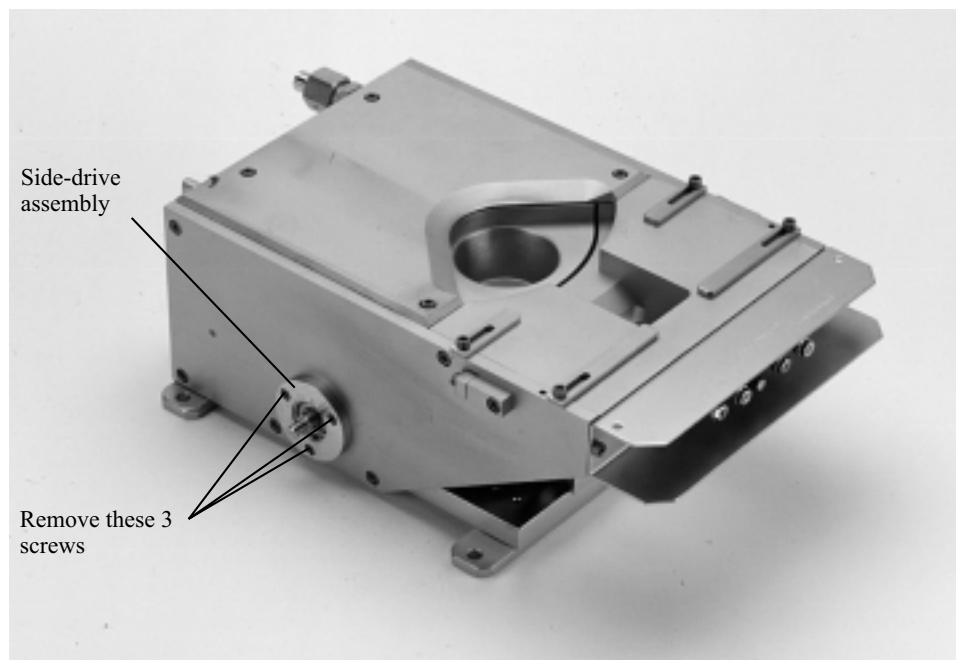

Figure 5-1. Removing the three screws securing the side-drive assembly
Step 1: If this is a side-drive gun, remove the three 6-32 3/8" screws that secure the side-drive assembly to the left- or right-hand pole piece, as the case may be (see Figure 5-1).